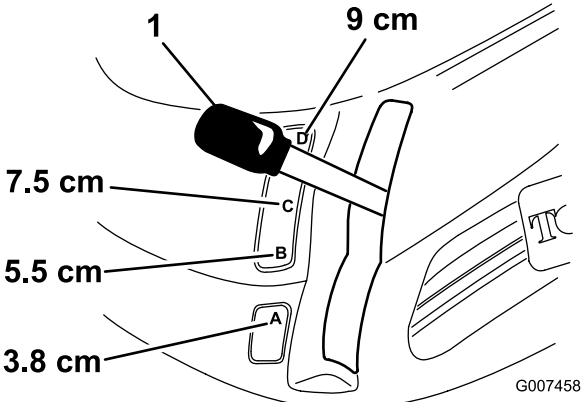

Figure 8
- 2. Pull on the height-of-cut lever, move it to the desired position, and release it slowly into the notch (Figure 8).